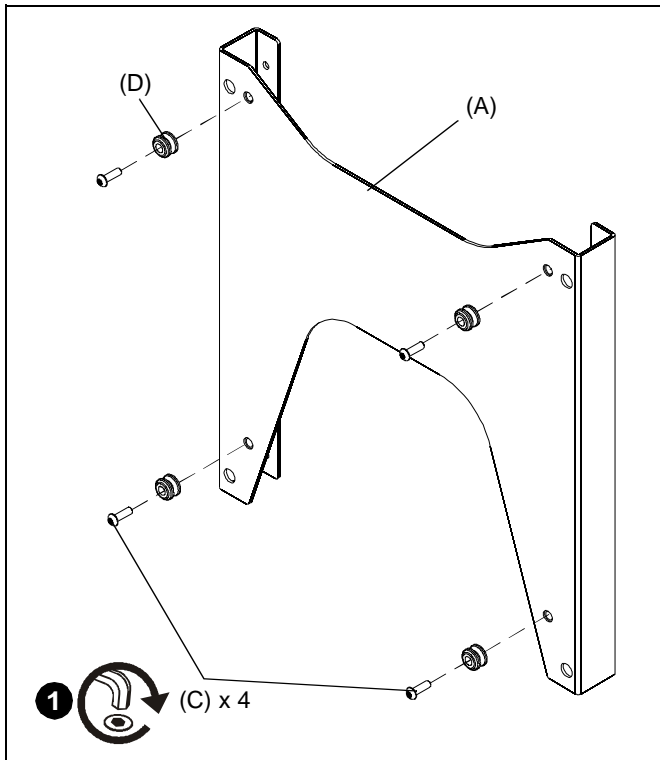

Figure 1
1. Attach mounting buttons (D) to interface bracket (A) using four 5/16-18 x 1" button head cap screws (C) and a 3/16" hex key (E). (See Figure 1) **Proceed to Step 3.**